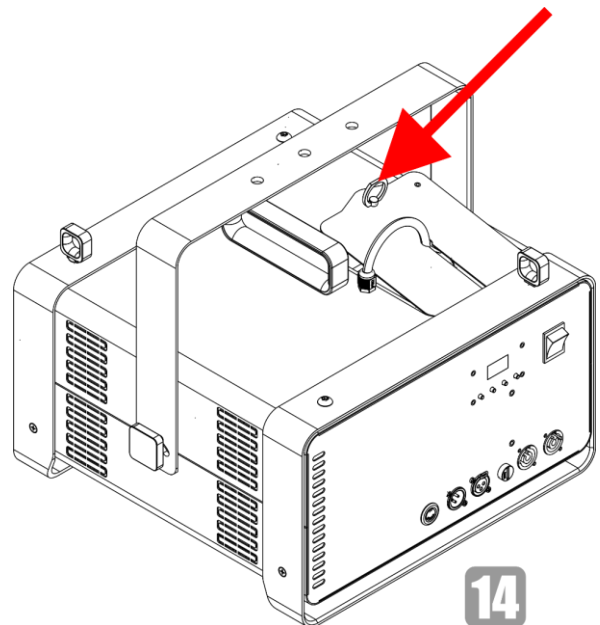

Fig. 32
- 14) Close the service lid, as shown in Fig. 32.